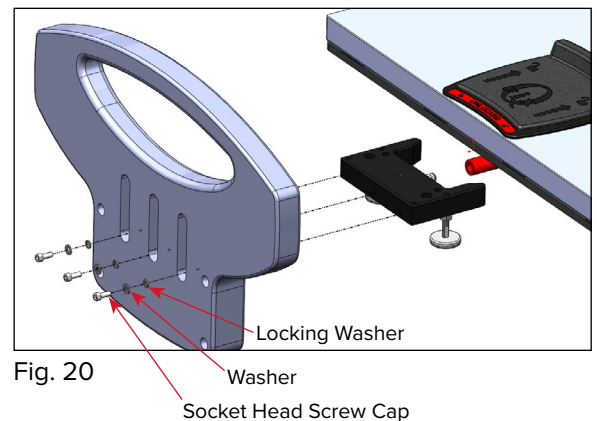

Fig. 20
2. Using (3) 10-32 x 0.75" long screws with washers and lock washers provided, secure the Foot Plate to the Foot End Latch Assembly Mounting Block. Do not tighten screws completely. Once step 7 is complete, screws can be tightened completely (Fig. 20).